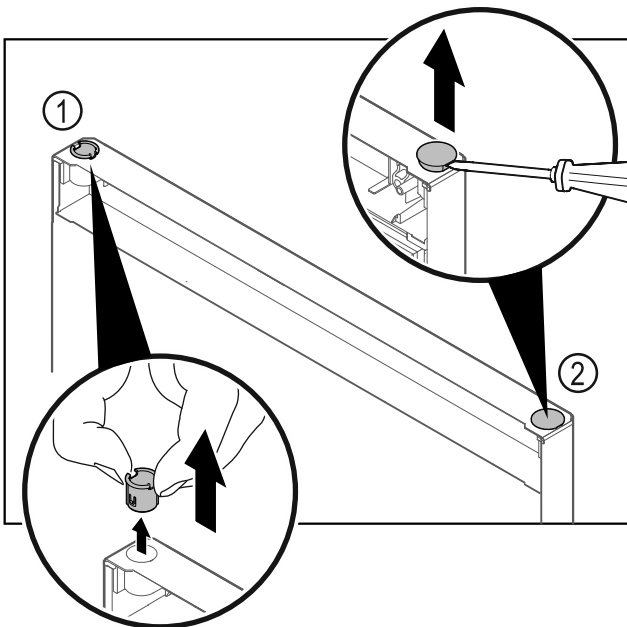

Fig. 28
- Pull out the hinge bushing Fig. 28 (1) with your fingers.
- Carefully lift the cover plug Fig. 28 (2) with a slotted screwdriver and pull it out.